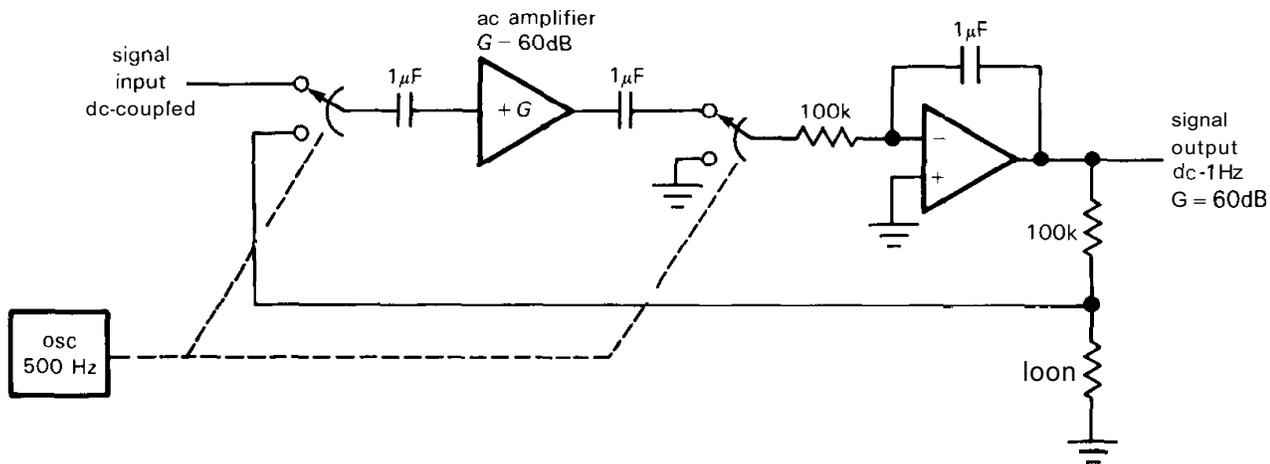

Figure 7.21. An ac-coupled chopper amplifier.
□ *ac-coupled "chopper amp."* When considering auto-zeroing chopper amplifiers, be sure you don't confuse this technique with another "chopper" technique, namely the traditional low-bandwidth chopper amplifier in which a small dc signal is converted to ac ("chopped") at a known frequency, amplified in ac-coupled amplifiers, then finally demodulated by multiplying with the same waveform used to chop the signal initially (Fig. 7.21). This scheme is quite different from the full-bandwidth auto-zeroing technique we've been considering, in that it rolls off at frequencies approaching the clock frequency, typically just a few hundred hertz. You sometimes see it used in chart recorders and other low-frequency instrumentation.